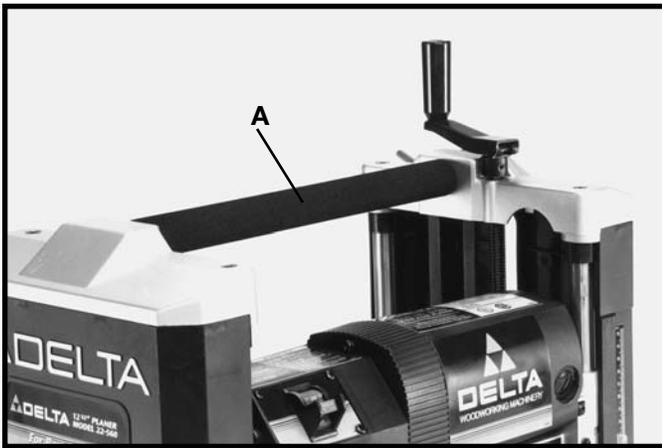

Fig. 25
1. Your planer is provided with a foam covered carrying handle (A) Fig. 25, located on top of the machine, for ease in transporting the planer. **Carrying handles are also provided at the base of the planer on each side which allow you to lift the machine with ease.**